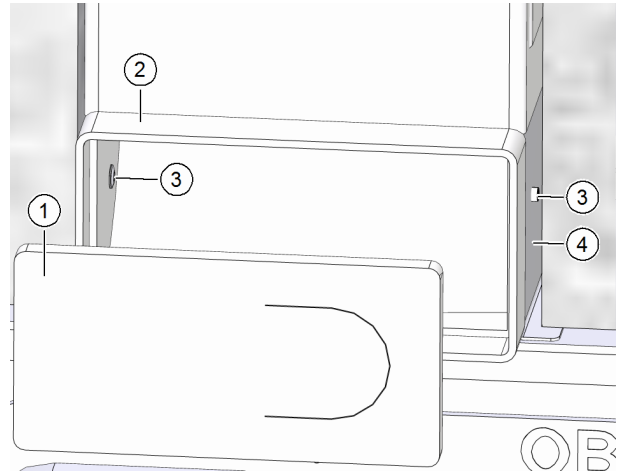

Fig. 18: Riveting the 90° bracket to fixing plate
- ▶ Remove the protective cover for the bracket (item 1 in Fig. 18).
- ▶ Use the riveter to fix the 90° bracket (item 2 in Fig. 18) to the fixing plate (item 4 in Fig. 18) with two blind rivets (item 3 in Fig. 18).
- ▶ Push the protective cover (item 1 in Fig. 18) back into the bracket (item 2 in Fig. 18).